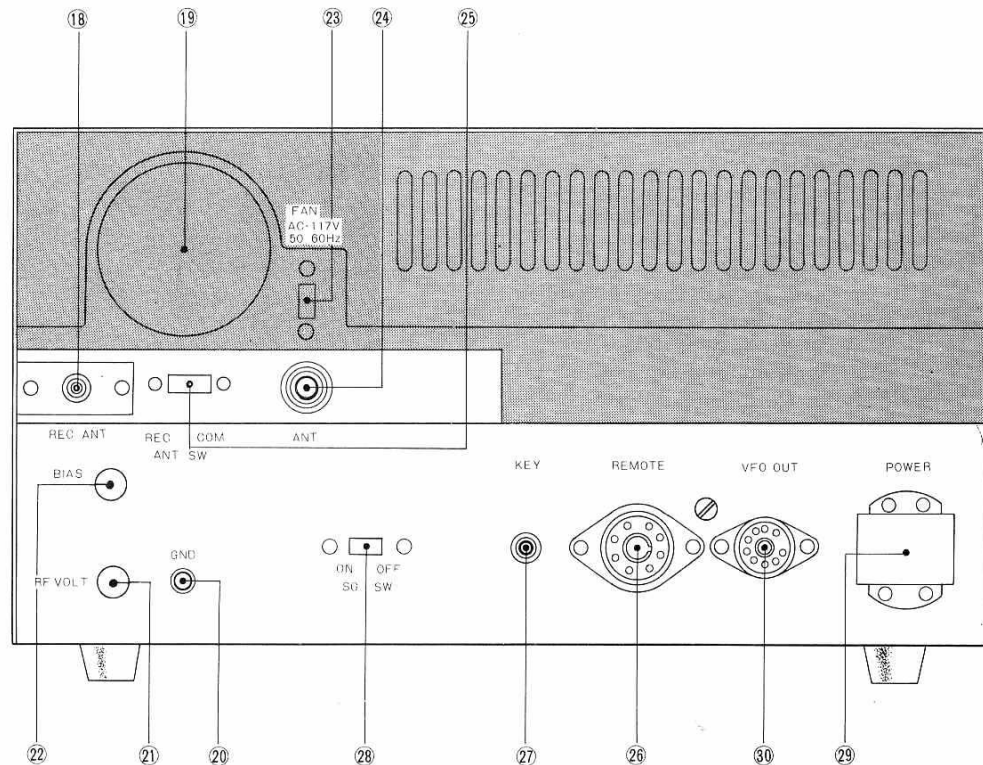

Fig. 6 TS-511S Rear Panel Controls
**REC ANT Receive Antenna Jack** (18 on Fig. 6)
**Cooling Fan** (19 on Fig. 6)
**GND Ground Lug** (20 on Fig. 6)
**RF VOLT RF Voltmeter Sensitivity Control** (21 on Fig. 6)
**BIAS Adjustment (22 on Fig. 6)**
**FAN Socket (23 on Fig. 6)**
**ANT Antenna Jack (24 on Fig. 6)**
**ANT SW Antenna Switch (25 on Fig. 6)**
**REMOTE Remote Control Socket (26 on Fig. 6)**
**KEY Jack (27 on Fig. 6)**
**SG SW Screen Grid On-Off Switch (28 on Fig. 6)**
**POWER Connector (29 on Fig. 6)**
**VFO OUT VFO Power Outlet (30 on Fig. 6)**